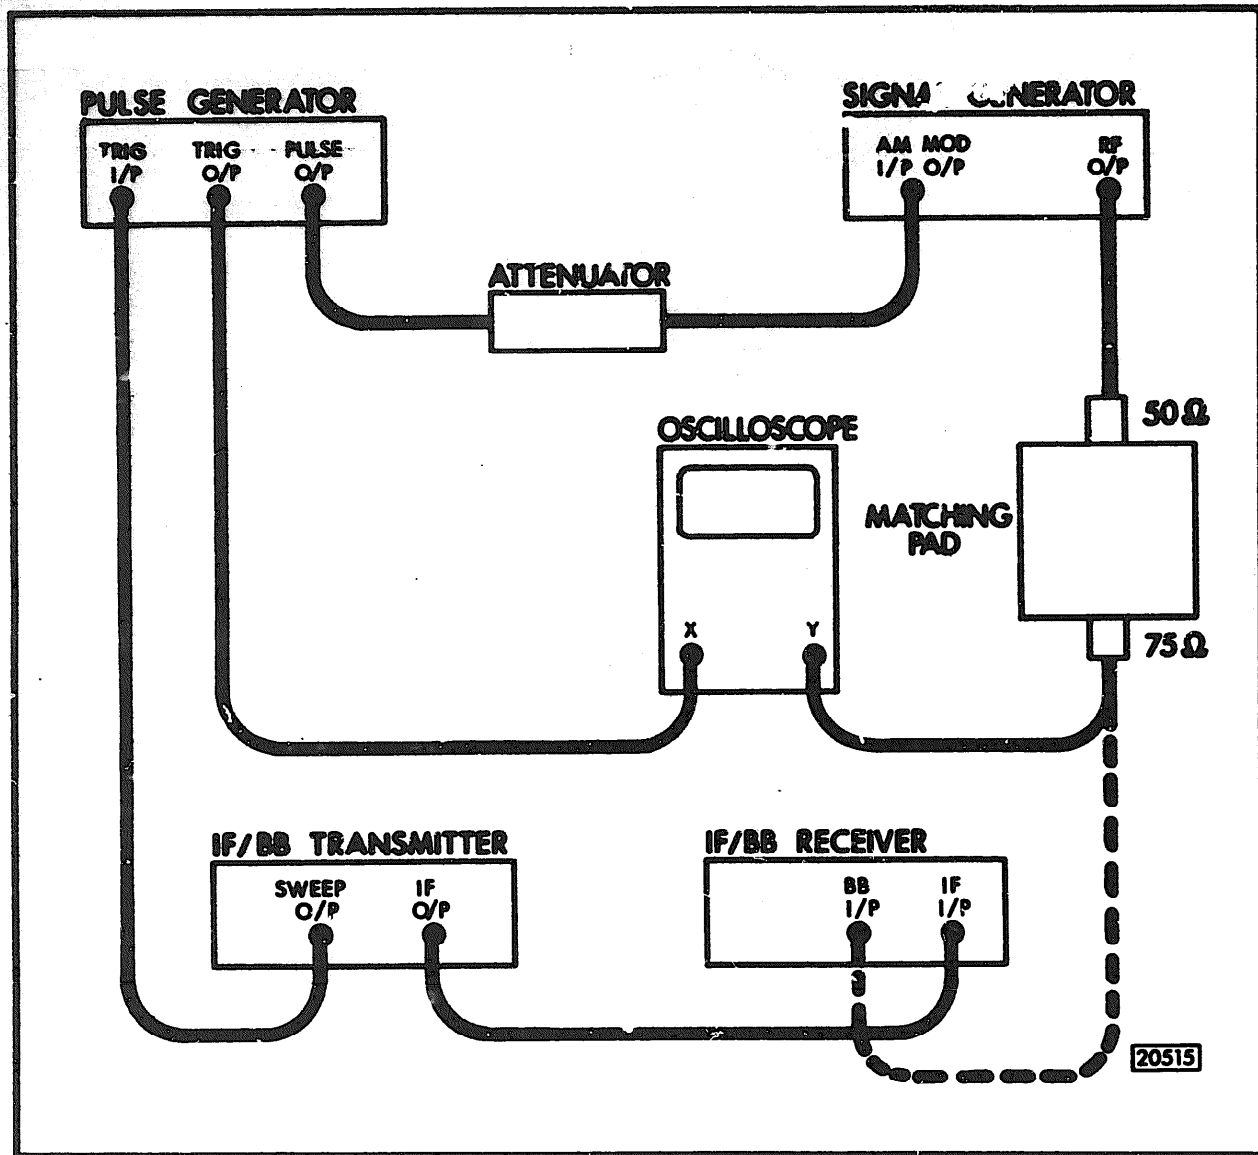

Figure 4-17 BB Calibration Check
graph 4-32. Set the BB INPUT (29) to EXT and connect the equipment as shown in Figure 4-17.